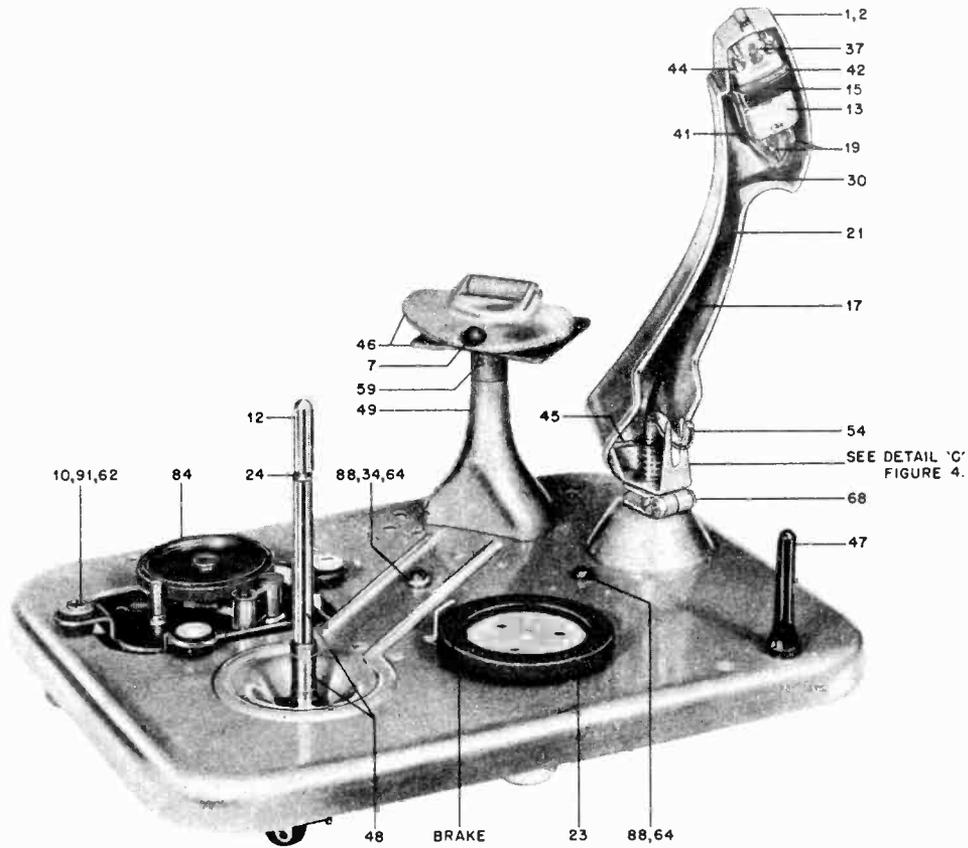

FIGURE 3. PARTS LOCATION - TOP VIEW
After the drive pulley is pulled away from the turntable, its motion is arrested immediately by a brake (See Figure 3) to prevent re-cycling.
**NOTE:** Reference numbers in parenthesis refer to Figures 3, 4, 5 & 6.